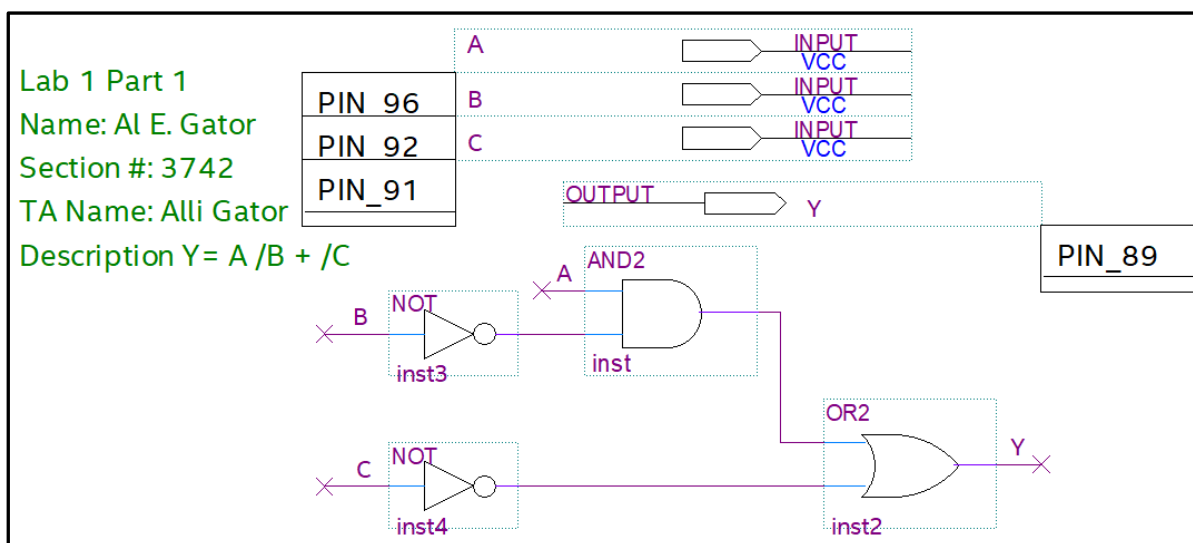

Figure 16: Bdf with pin assignments
- The result is that your bdf will now change to look something like Figure 16. Note that you can move the pin numbers around in the bdf.